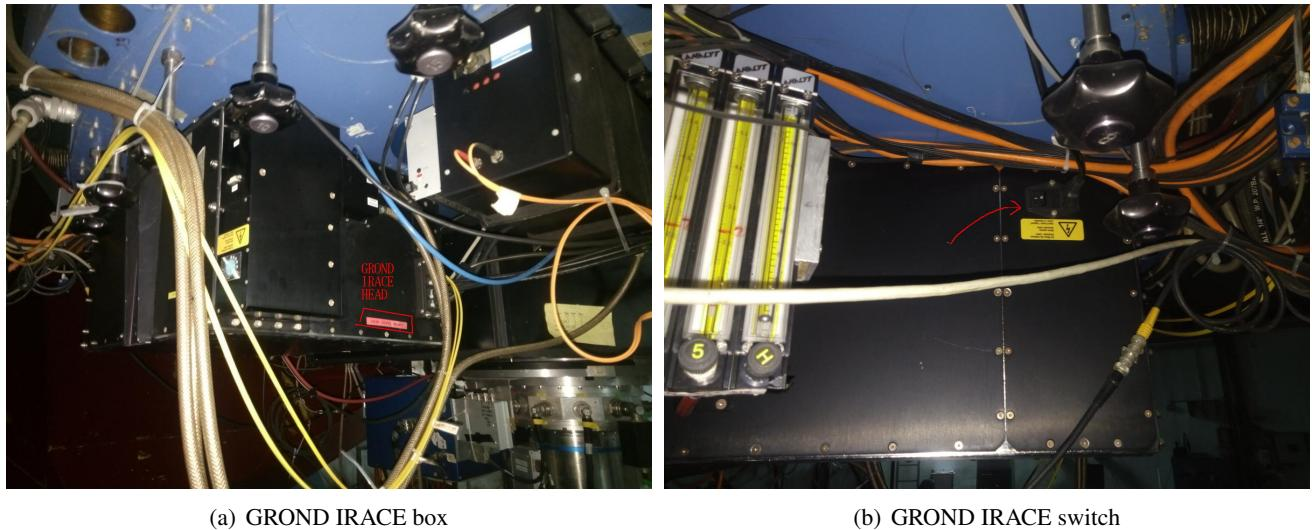

Figure 9.12: The GROND infrared electronics (IRACE) box below the main mirror of the telescope. The power switch is located towards the pier.
- E. Locate the power switch of the IRACE box (Fig. 9.12) below the main mirror.